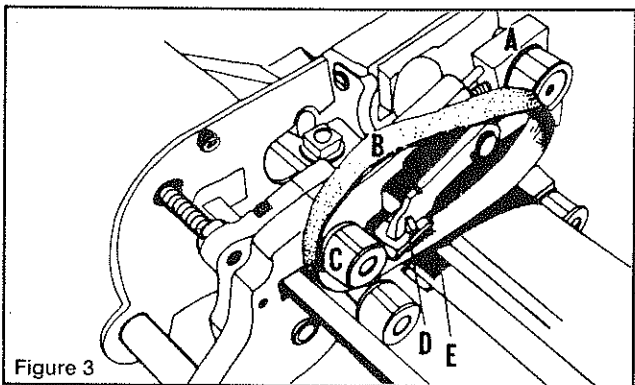

Figure 3
- Figure 3: Slip new FlexiBand "B" over Drive Pulley "C" and between Band Plate "D" and Blade "E." Push Block "A" forward and slide FlexiBand over it. Release Block "A."